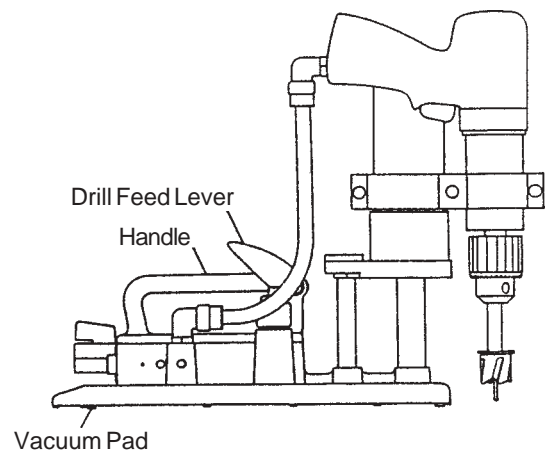

Figure 6
10. To accurately drill in the desired location, press the drill feed lever with your left thumb until the drill has reached full travel, as shown in figure 6. Place center of cutting point in the center punch mark. Hold the vacuum pad at an equal distance or level with the working surface and slowly lighten the left thumb pressure on the drill feed lever until the vacuum pad rests evenly on the working surface. Firmly press the vacuum pad into the working surface to ensure vacuum seal has taken effect.